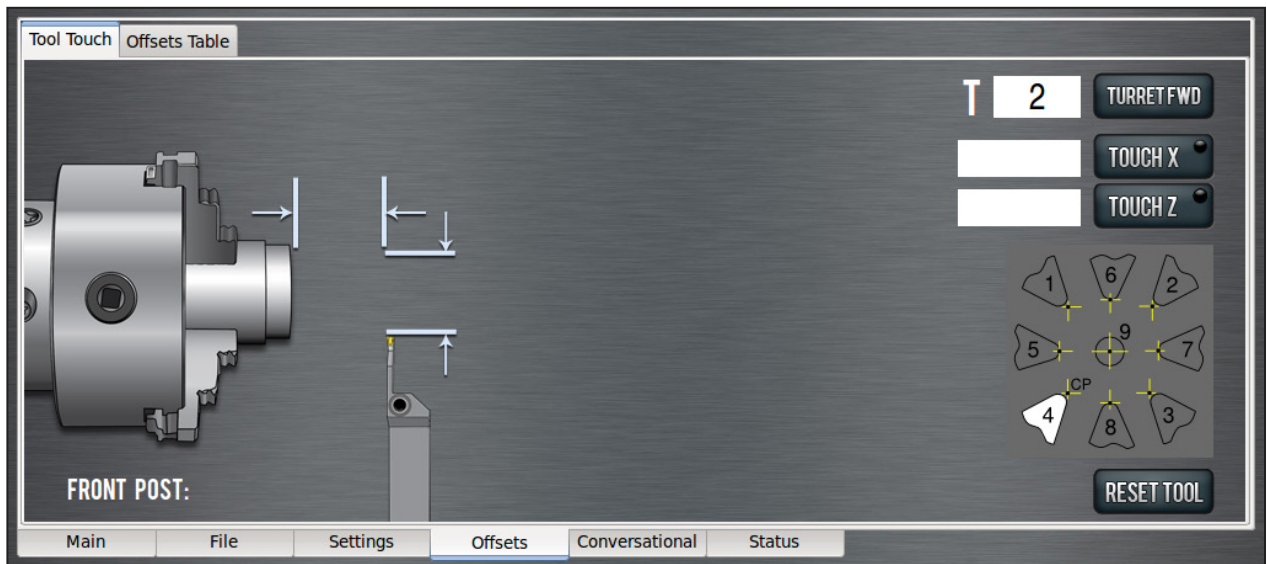

Figure 4.14
4. Change tools to tool 2 (the parting tool) by typing 2 in the *T* DRO on the *Tool Touch* tab; click *Enter* (see **Figure 4.14**).
NOTE: The control point for this tool is 4 (see **Figure 4.14**). This may seem unintuitive at first but when you consider that the length of the part (not the remaining stock in the spindle) is the critical dimension, it becomes clear that a parting tool's control point should be 4. The control point diagram shown in **Figure 4.14** illustrates the control point, but does not necessarily match the insert shape.